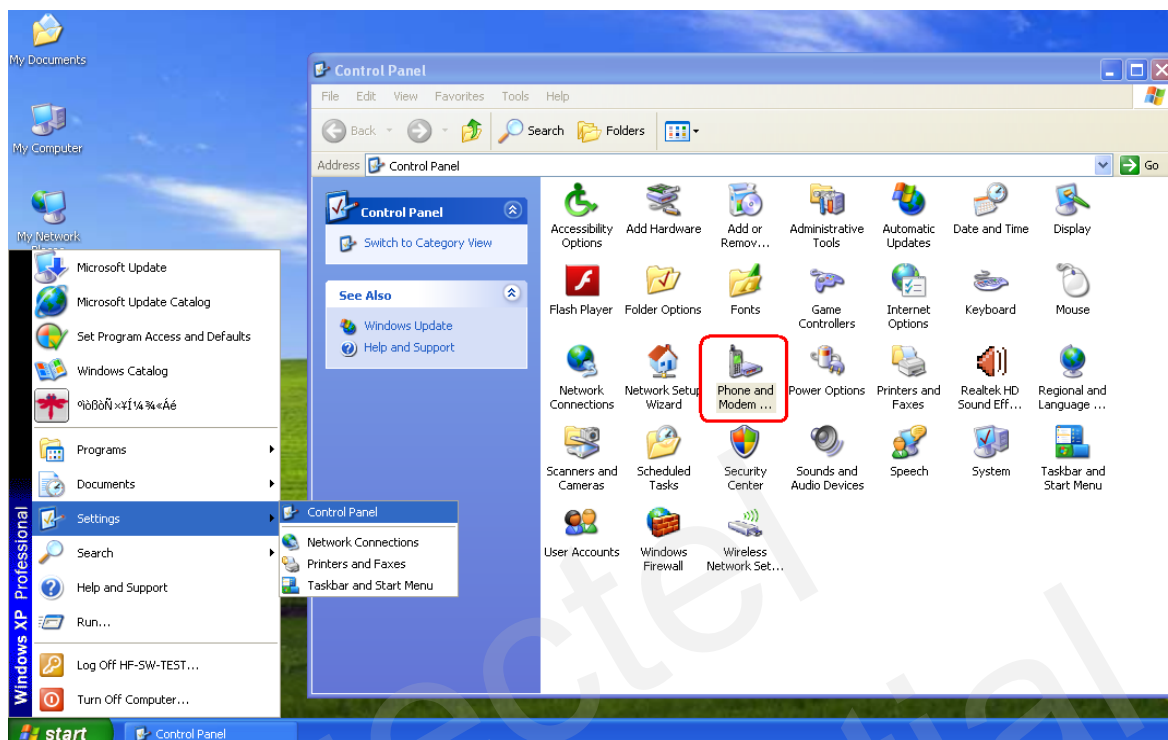

Figure 4: Open the Control Panel
1. Click button “**Start**” -> “**Settings**”-> “**Control Panel**” -> “**Phone and Modem Options**”. Please refer to Figure 4.